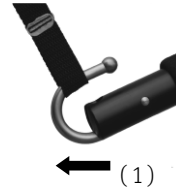

Fig. 1.8A
(1) The sling strap is placed over the hook in its open position. (Fig. 1.8A)